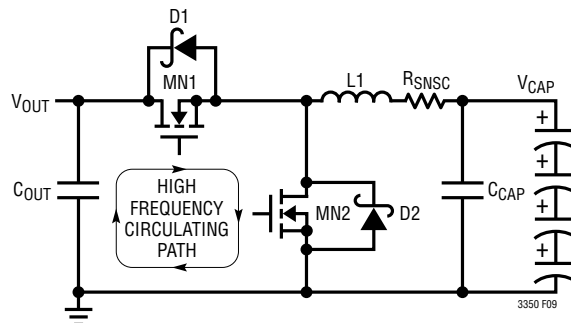

Figure 9. High Speed Switching Path
1. Keep MN1, MN2, D1, D2 and  $C_{OUT}$  close together. The high di/dt loop formed by the MOSFETs, Schottky diodes and the  $V_{OUT}$  capacitance, shown in Figure 9, should have short, wide traces to minimize high frequency noise and voltage stress from inductive ringing. Surface mount components are preferred to reduce parasitic inductances from component leads.